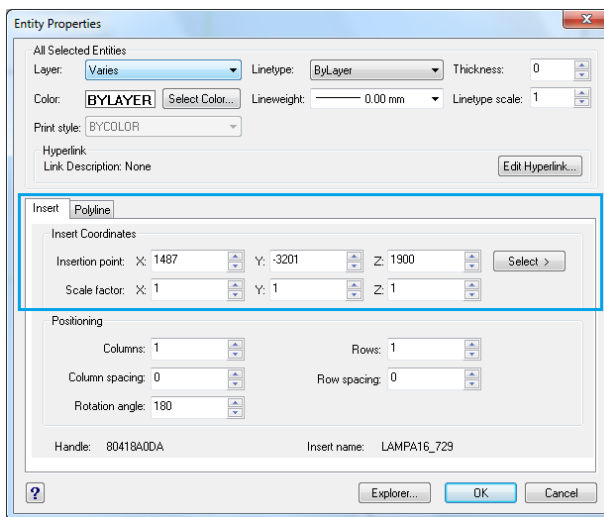

Fig. 112 – Entity Properties dialog
**Entity Properties** dialog box (Fig. 112) contains information about a particular selected entity or entities. If several entities that all have different properties are selected, the default value initially is **Varies**. Changes can be made in the **Layer**, **Colour**, **Thickness**, **Lineweight**, **Linetype**, **Linetype Scale** and **Print Style** (if using named print style tables) fields affect all selected entities.